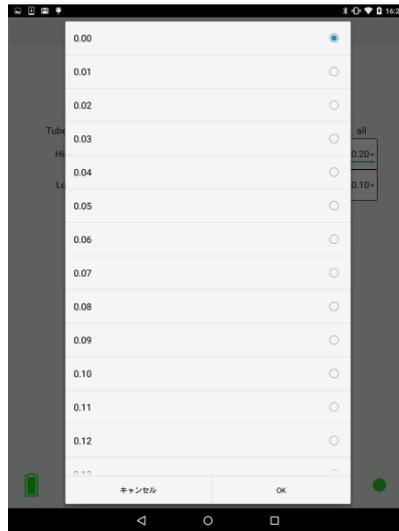

Figure 4-4: Threshold setting screen
- (4) To set thresholds, select the absorbances to be used as the thresholds (then the values higher than "High" are displayed with "+," those lower than "Low," with "-", and those between "High" and "Low," with "±"). Otherwise, tap "Next."
- (5) To set thresholds at the time of judgment, tap the threshold input field (3) in Figure 4-2 to display the numeric input screen as shown in Figure 4-4. Then select a numerical value for each channel and then tap "OK." If you set a threshold for all, it applies to all channels.